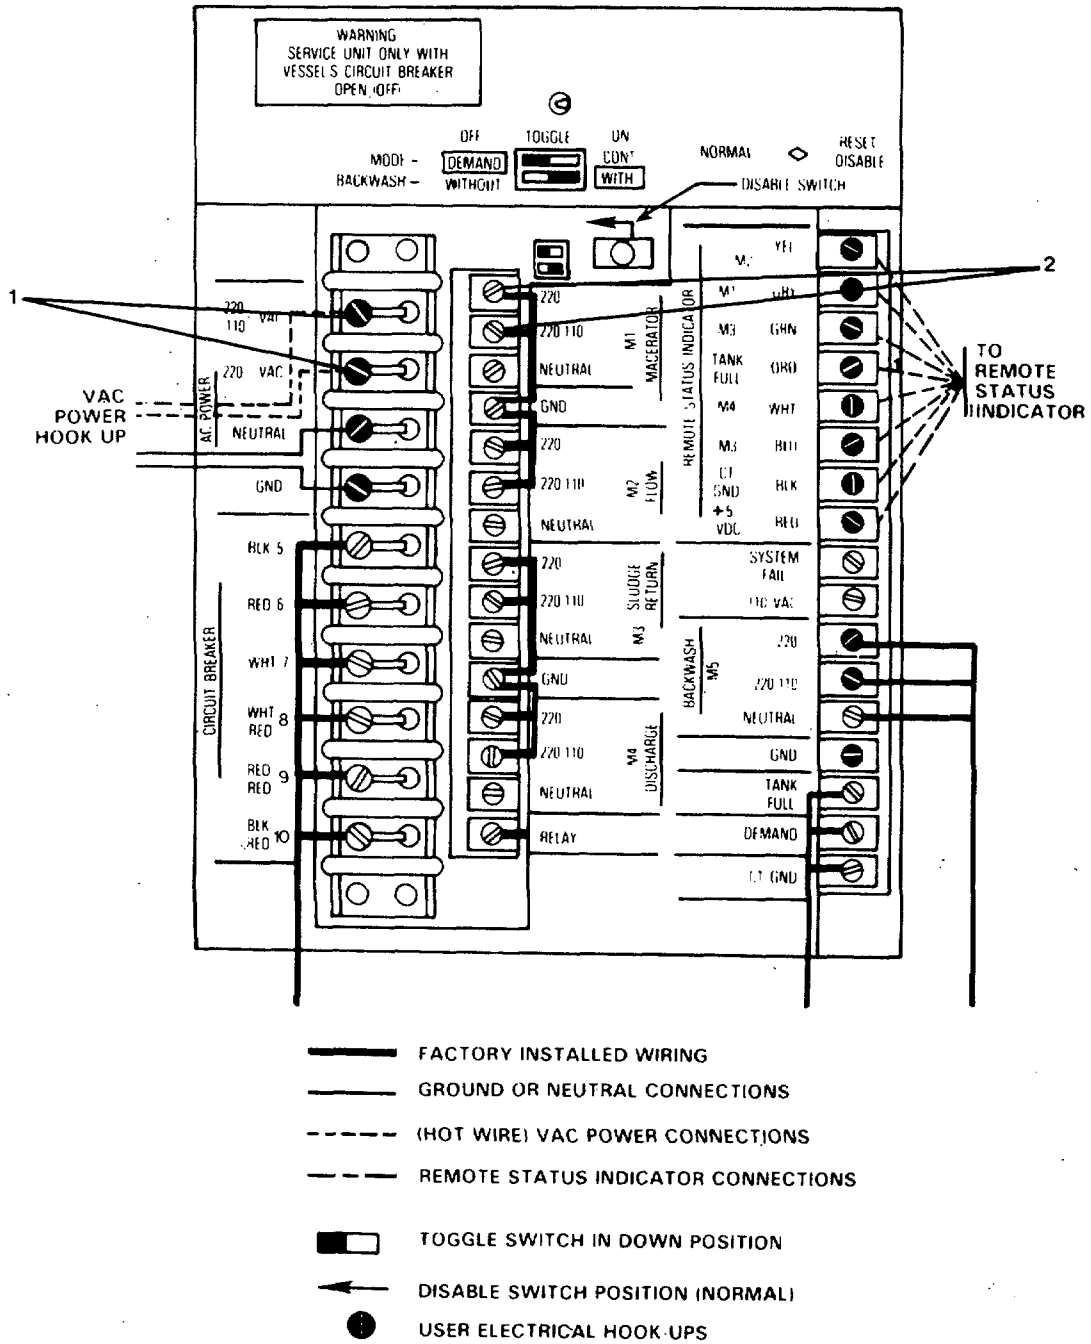

Figure 3-2. Power Supply and Waste Disposer Terminals in the Control Module Assembly.
- (a) Make sure there is voltage to the control module assembly (paragraph 2-17). Refer to (1) FIGURE 3-2 for power supply terminals.
- 1 Use a multimeter and, test for proper voltage across the poles marked 220 and 220/110 on the macerator terminals on the circuit card in the control module assembly. Refer to FIGURE 3-2 for terminal identification.
- (c) Turn the electrical power OFF to the sanitary unit and check the waste disposer (macerator) leads in the control module assembly for loose or broken leads (paragraph 2-17). Refer to (2) FIGURE 3-2 for terminal identification on the circuit card. Tighten or correct as required.